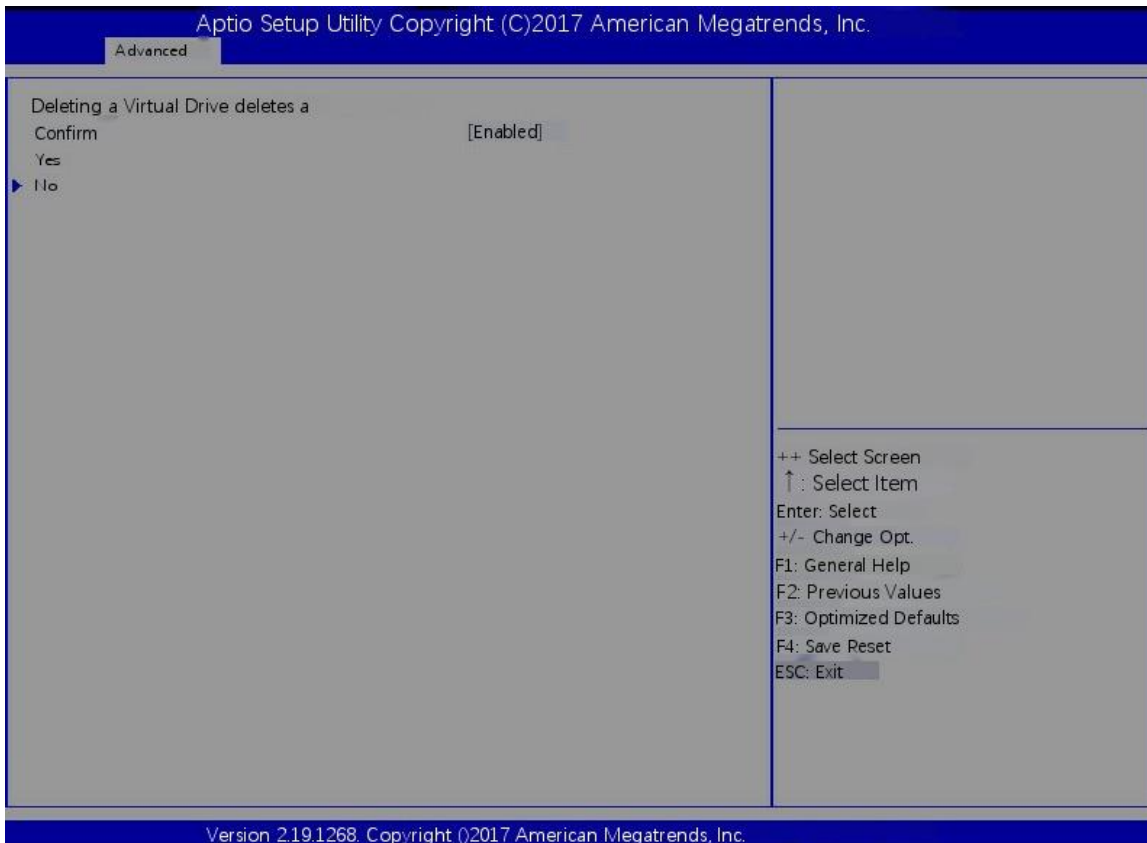

Figure 6-29
e) Enter the interface shown in figure 6-29, select confirm to enable it, select Yes, and press enter.